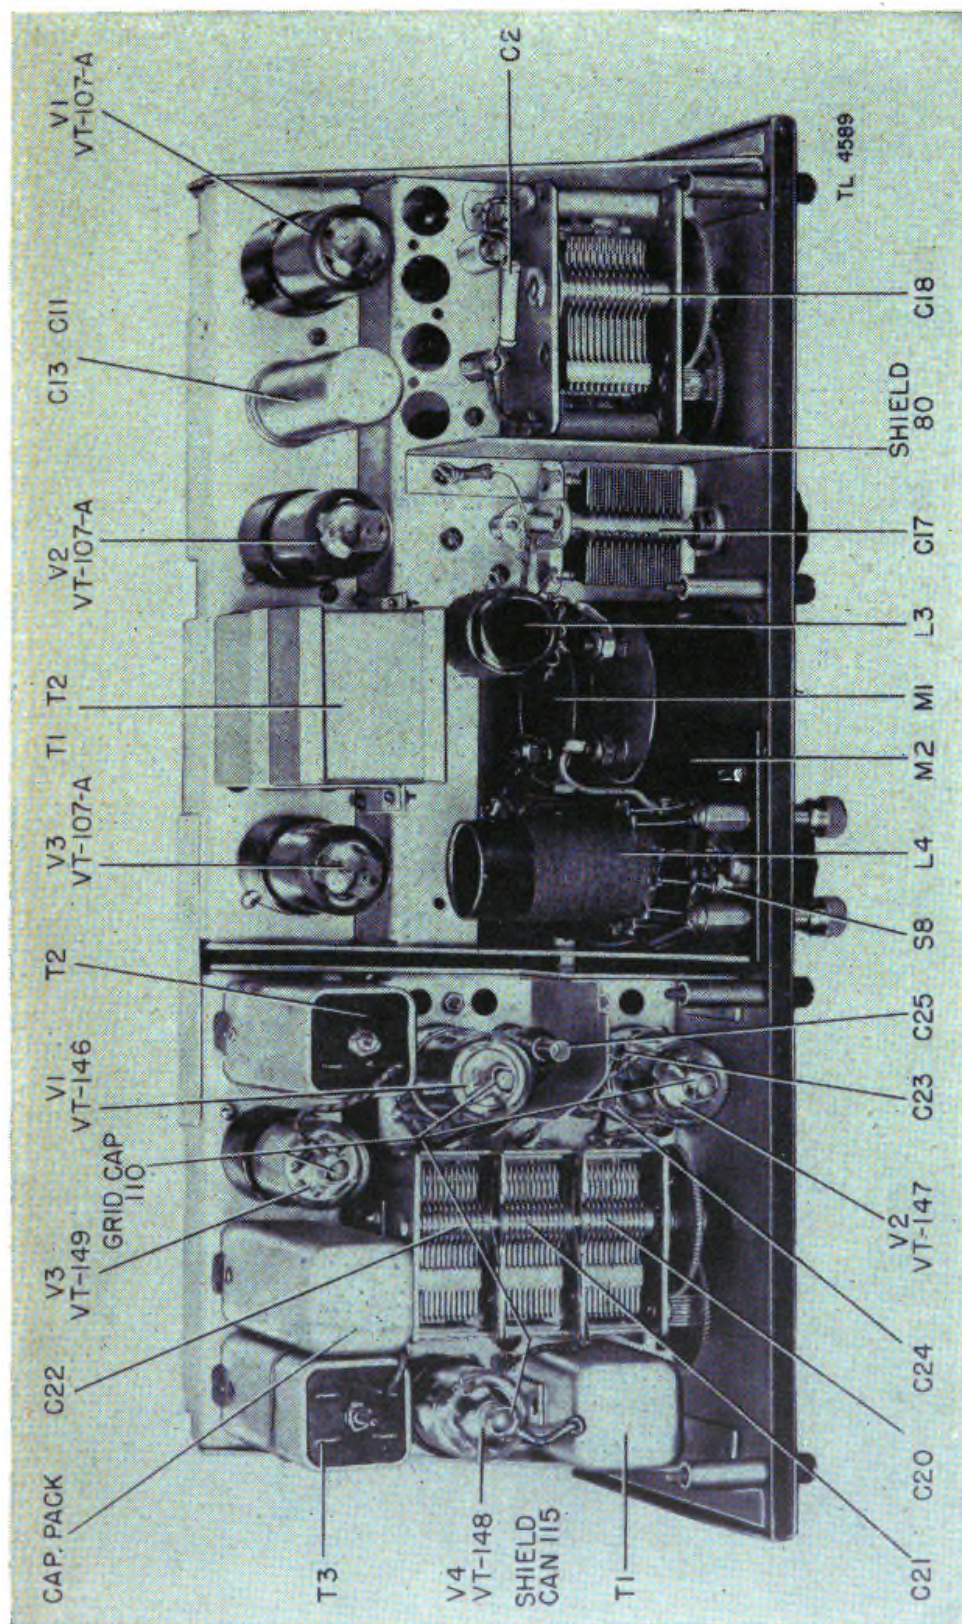

Figure 8.—Radio receiver and transmitter BC-474-A, chassis—top view.
10. Over-all equipment.—*a.* The top and bottom views of radio receiver and transmitter BC-474-A, removed from the case, are shown in figures 8 and 9.